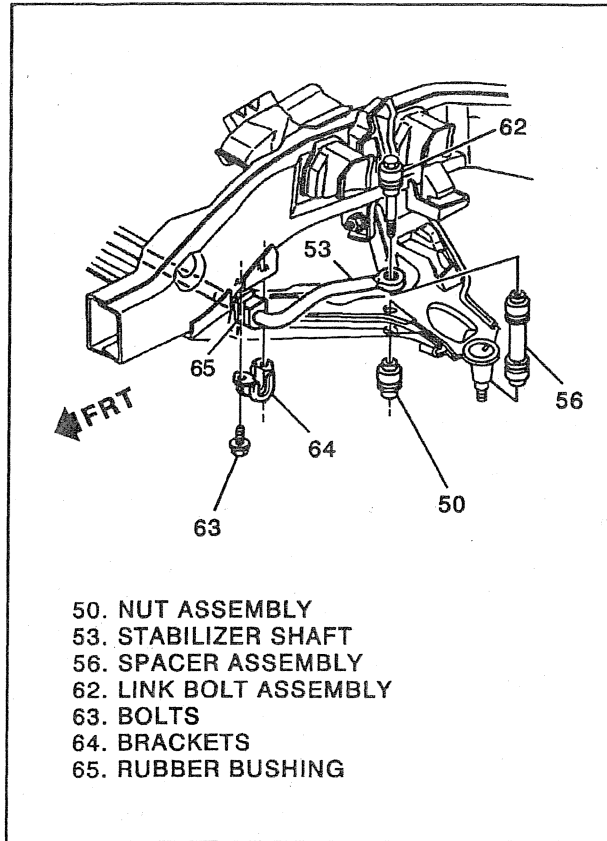

Figure 12—Stabilizer Bar Components
7. Stabilizer shaft components as follows (figure 12):
5. Stabilizer shaft bushing (65) and bracket (64) (figure 12).